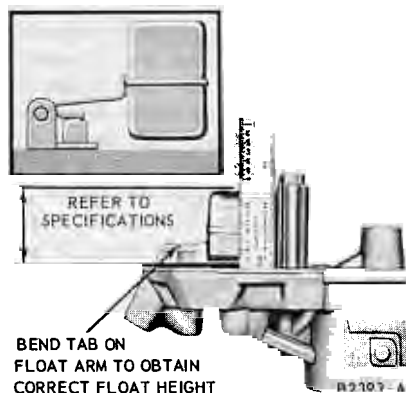

FIG. 4—Carburetor Float Adjustment—Ford 1-V
2. Measure the distance from the gasket surface of the upper body (air horn) to the top of the float (Fig. 4). If the float adjustment is not within the specified dimension, bend the float arm tab, as necessary, to obtain the specified dimension. Do not apply pressure on the fuel inlet needle. The viton tip of the fuel inlet needle may be damaged through undue pressure exerted on it and thus cause an improper fuel level within the bowl.